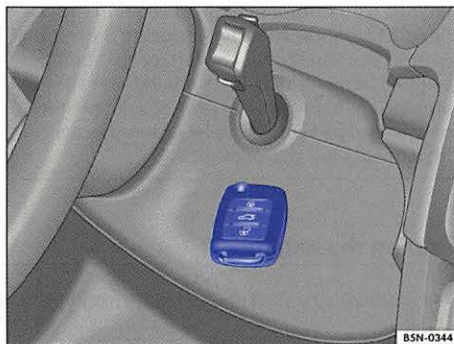

Fig. 120 Emergency start function for vehicles with KESSY.
- Hold the vehicle key to the right of the steering column trim immediately after pressing the starter button ⇒ fig. 120.